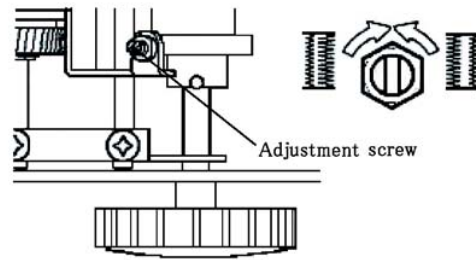

Fig.5
2. Turn the adjustment screw, eliminate the difference of stitch width at right and left. (Fig. 5)